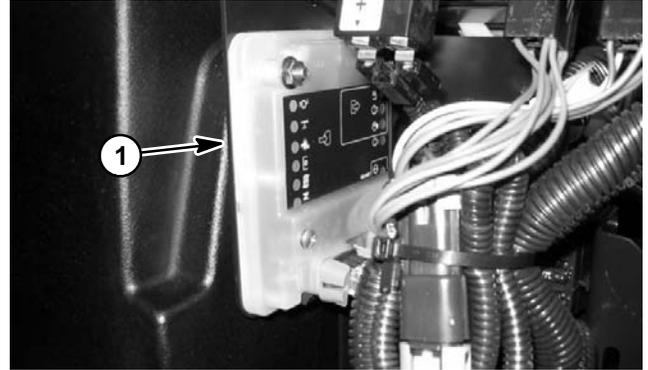

Figure 8
1. Remove the cover over the instrument panel to expose the Standard Control Module (SCM) (Fig. 8).